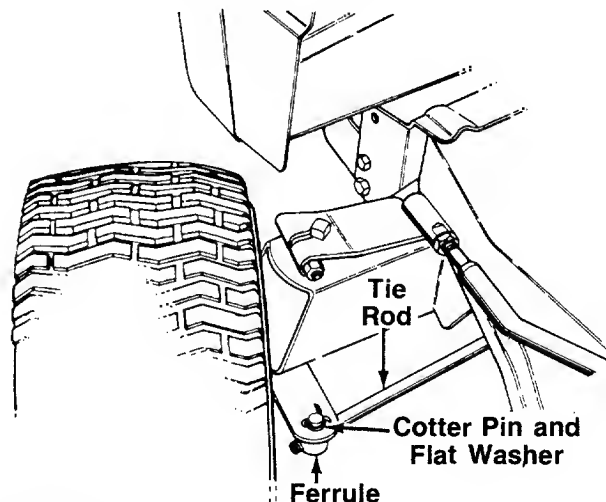

FIGURE 17.
1. Remove the cotter pin and flat washer from the ferrule on the tie rod end on the ~~left~~ **RIGHT** side of the tractor. See figure 17.